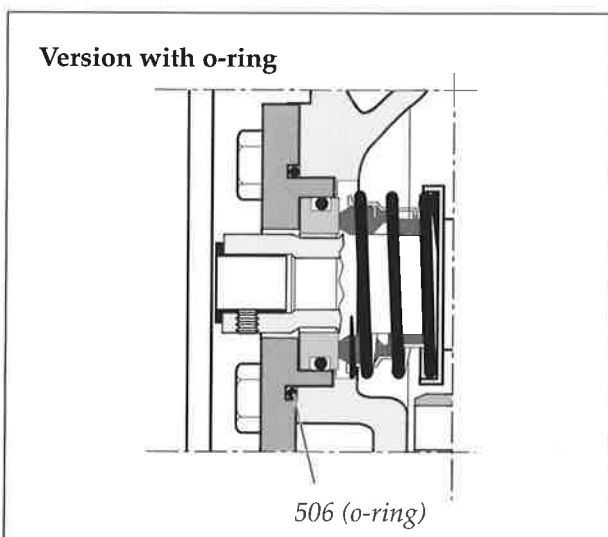

Fig. 3b
- Fit a new o-ring 506 in replacement for the old o-ring (see fig.3b). Lubricate the o-ring with grease in order that the o-ring is remaining in the front cover when turning it up-side down.